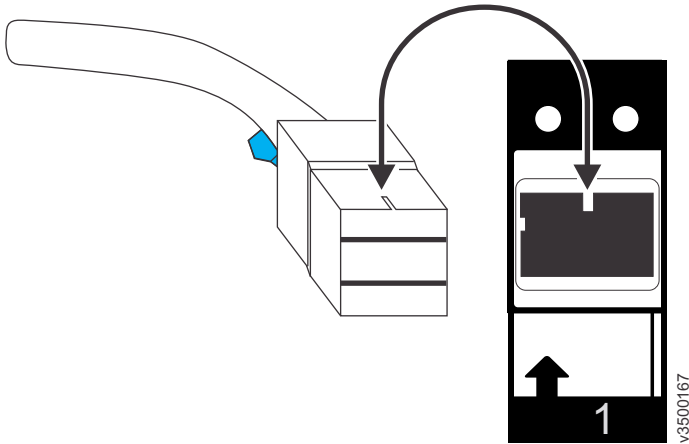

Figure 32. Proper orientation for SAS cable connector
- Figure 32 shows the correct orientation. The blue tab is always below the port for expansion enclosure attachment SAS cables.